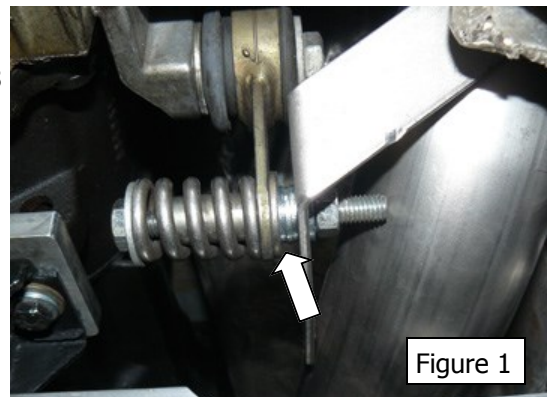

Figure 1
1. Use AWE supplied M8 x 1.25, 55mm Long bolts and M8 washers as spacers to align OE hanger bracket to AWE Downpipe bracket, reuse OE nut (use only as many washers as needed, at arrow in Figure 1).